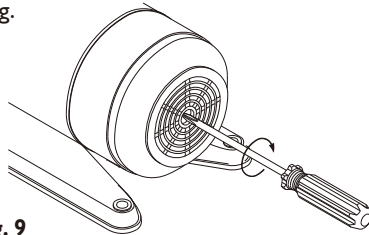

Fig. 9
3. If the pump shaft is seized up after periods of inactivity, please place a screw driver from the motor end to rotate the shaft. It should free the pump shaft. ( See Fig 9 ) If this does not remedy the problem, the unit will need dismantling.